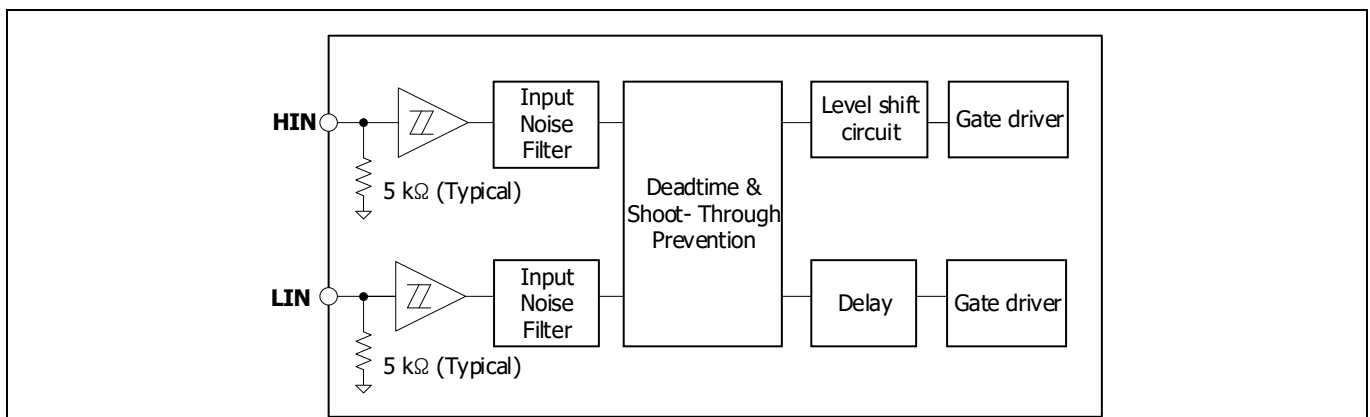

**Figure 10 Recommended micro-controller I/O interface circuit**
- To prevent signal oscillations, an RC coupling is recommended as illustrated in Figure 10.
Figure 10 shows the I/O interface circuit between micro-controller and IPM. The IPM input logic is active-high with internal pull-down resistors. External pull-down resistors are not needed.
As shown in Figure 11, the IM818 input signal section integrates a 5 kΩ (typical) pull-down resistor. Therefore, when using an external filtering resistor between micro-controller output and IPM input, pay attention to the signal voltage drop at the IPM input terminals. It should fulfill the logic "1" input voltage requirement. For instance, R = 100 Ω and C = 1 nF for the parts shown in Figure 10.